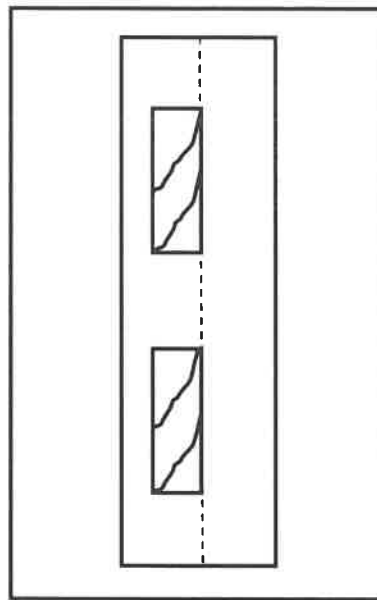

FIGURE 6.2
6.2 FIGURE 6.2 below shows an assembled view of a timber joint.